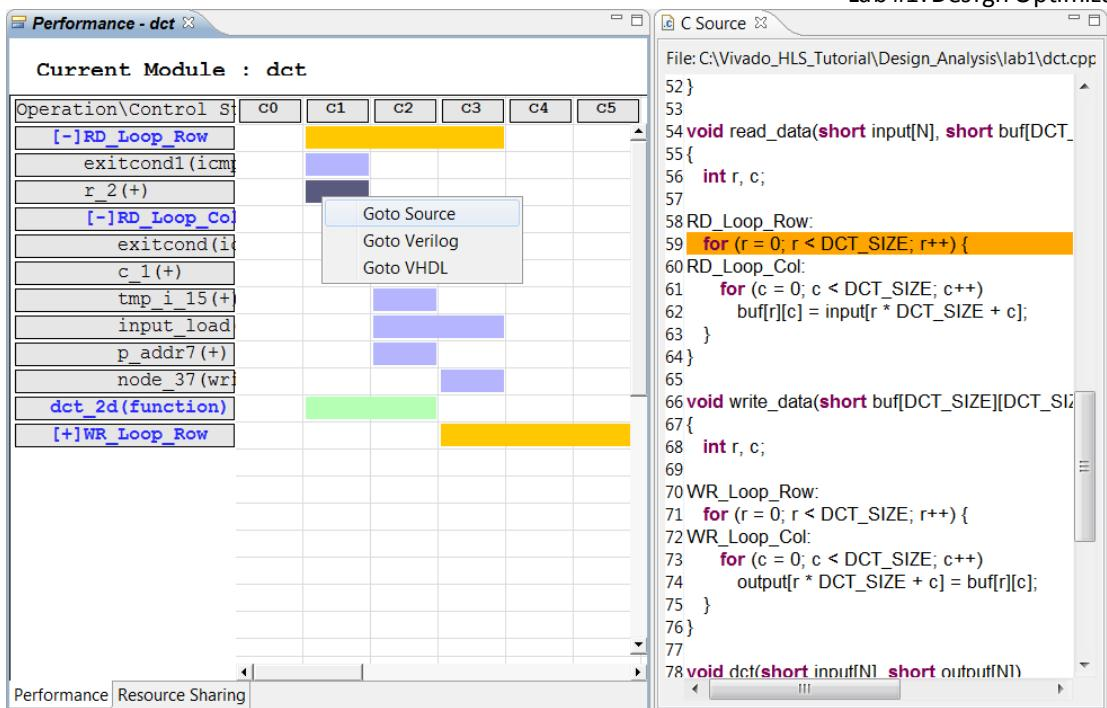

Figure 116 C Source Code View
3. Select the adder in state C1, right-click with the mouse and select C source code (Figure 116).
This opens the C source code to highlight which operation in the C source caused this adder to be created. From Figure 116 we can determine it is indeed the loop counter: it is the only addition on this line and the variable is named "r".